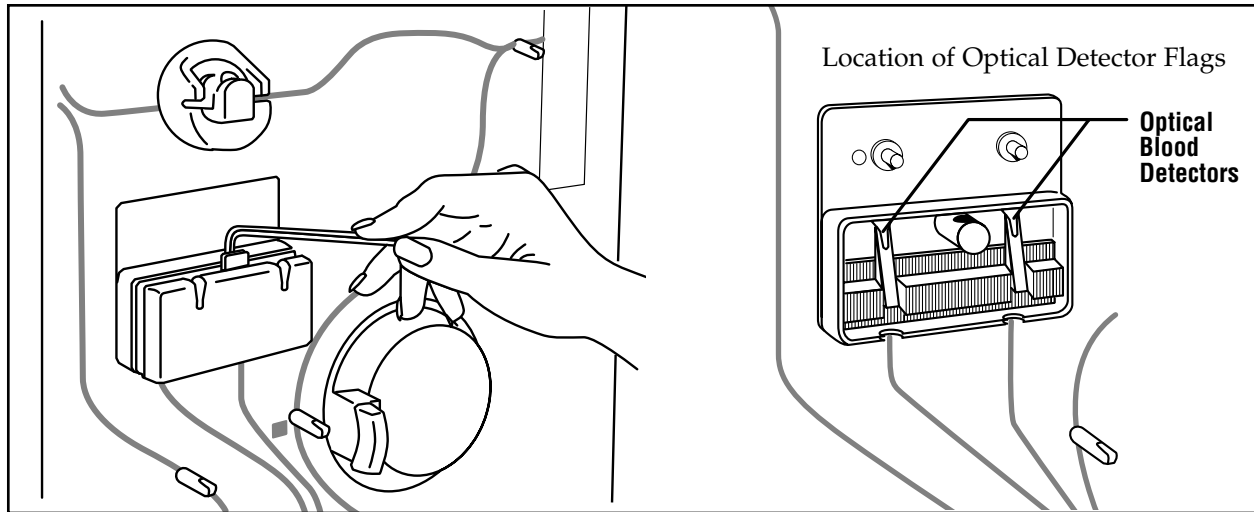

Figure 4.1 Removing the Pressure Transducer Cover
1. Remove pressure transducer cover as defined in the PARTS REMOVAL section (See Figure 4-1).